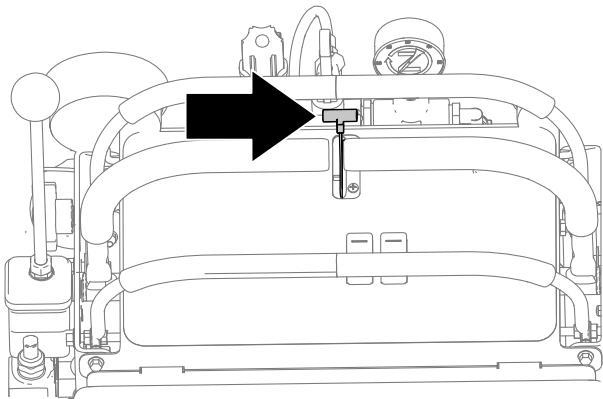

Figure 14
2. Move the throttle up from the SLOW position, approximately 1/3 of the way (Figure 14).